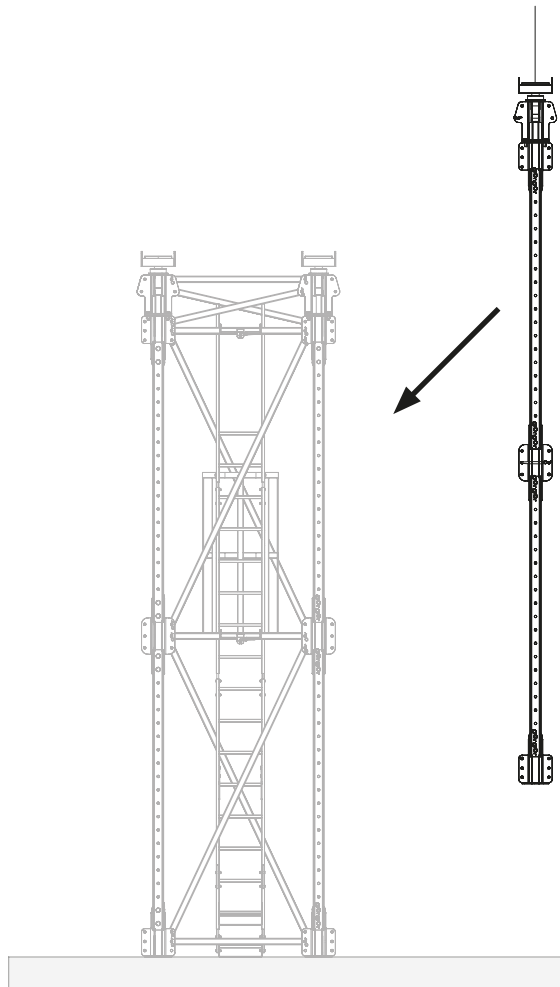

Fig. B2.01
2. Set down the additional frame at the correct distance from the tower. (Fig. B2.01)